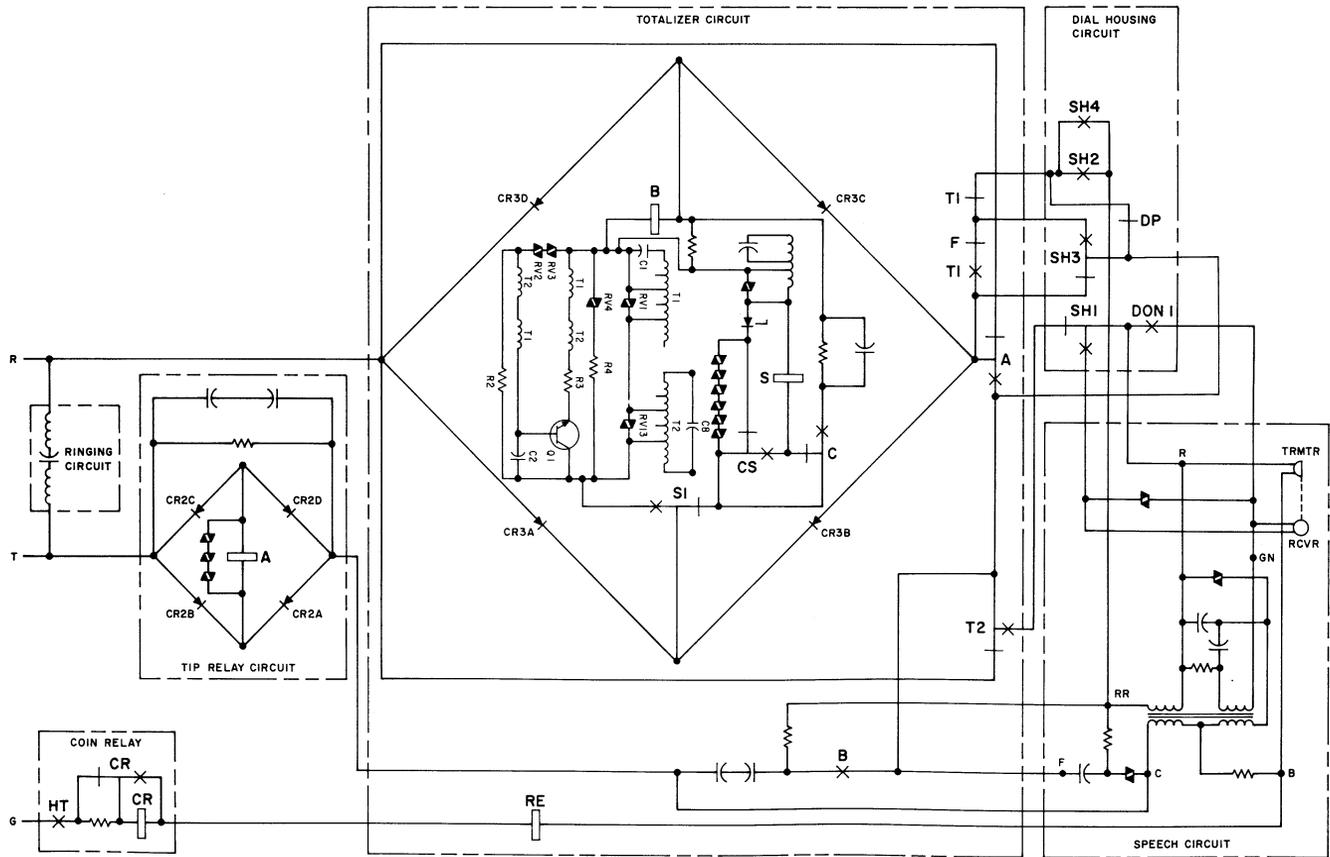

Fig. 11—1C1/2C1 Coin Telephone Set—Schematic (CF Mode)
**2.23 Tip Relay Circuit (Used in CF only) (Fig. 11 and 12).**
**COIN FIRST SERVICE (Fig. 11 and 12)****A. Originating A Call**